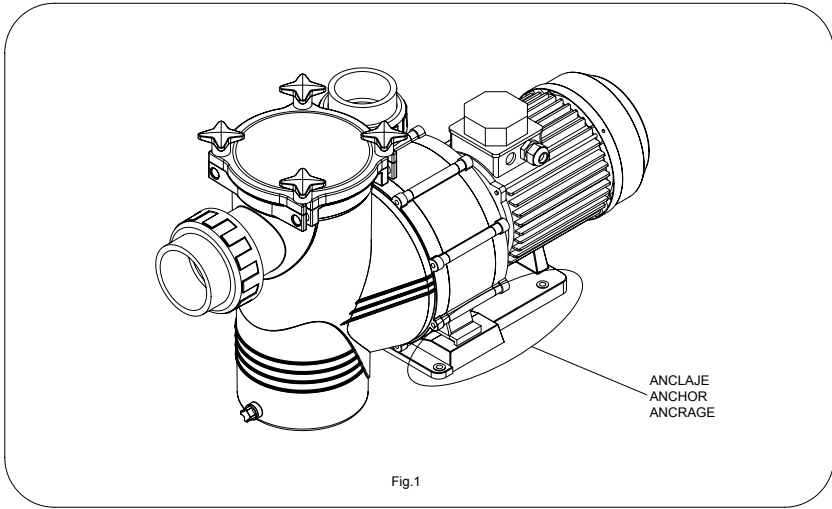

Fig.1
- All pumps come with a two-drill foot to allow for them to be fixed in the floor by means of an anchor (Fig.1).